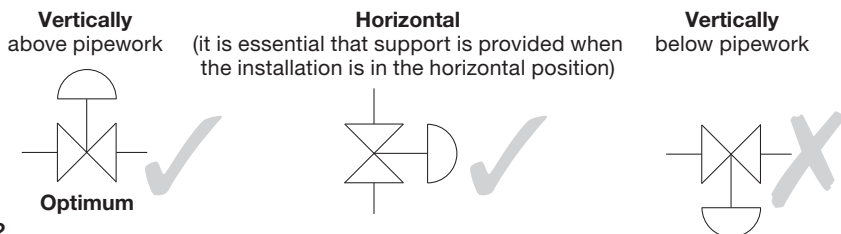

Fig. 2
**Caution:** Sling eyes (X, see Figure 2) are **not to be used** for lifting an actuated valve assembly.
The actuators should be installed in such a position as to allow full access to both the actuator and the valve for maintenance purposes. The preferred mounting position is with the actuator and valve spindle in the vertical position or horizontal to the pipework (it is essential that support is provided when the installation is in the horizontal position), see Figure 2).